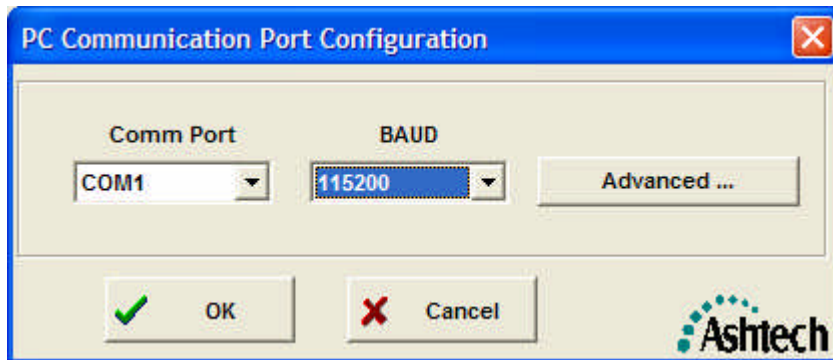

Figure 5. Adjusting GPS Receiver Baud Rate
10. As in Figure 5, change the baud rate to “115200”. Click on OK. (Note: For the uZ CGRS model, the default baud rate on Port A/B is 9,600).